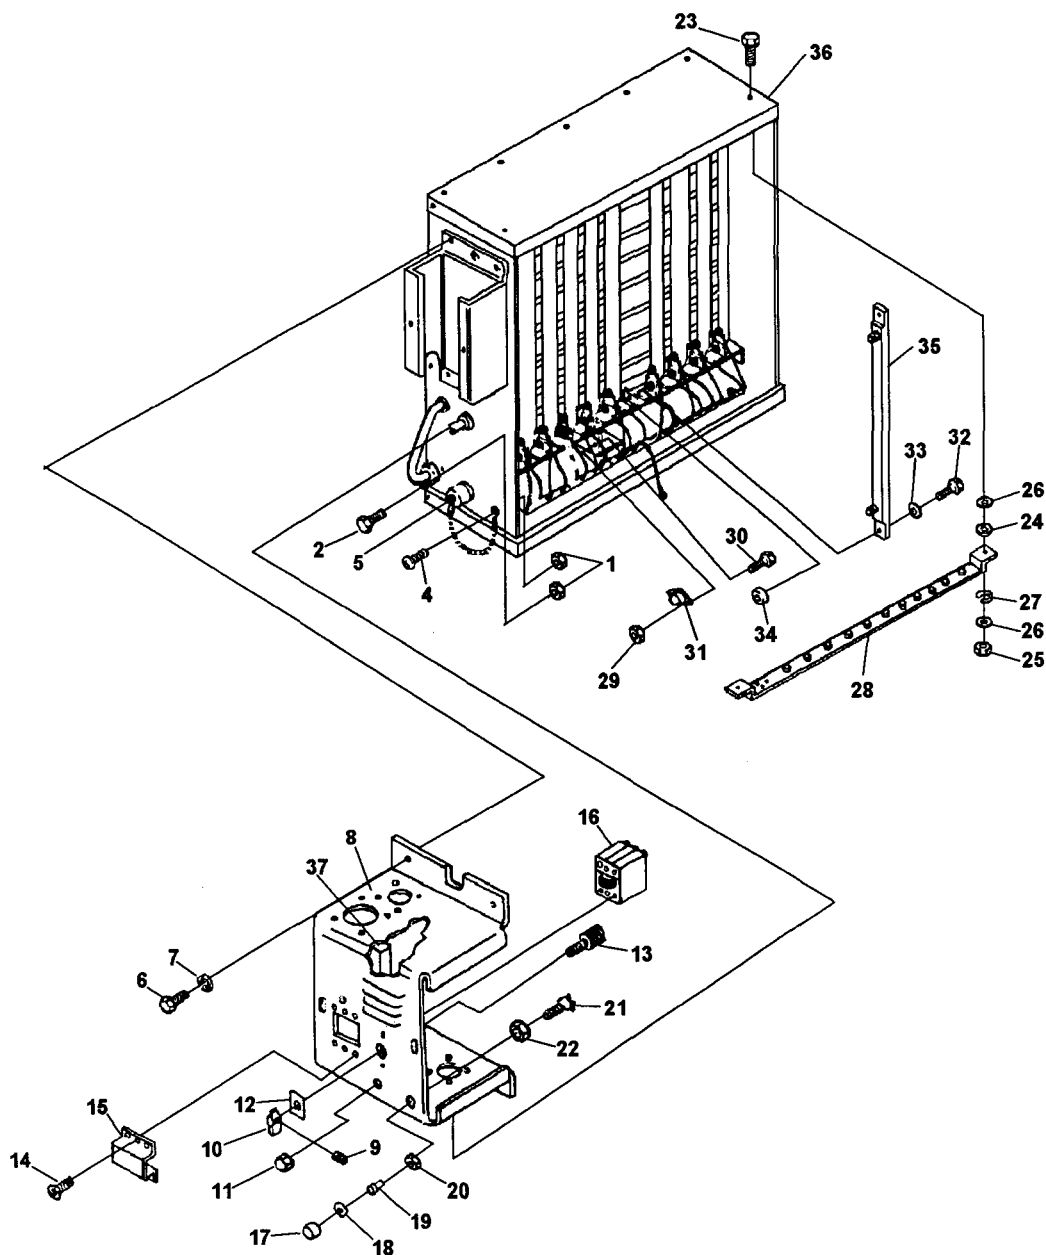

Figure 5-12. Load Bank Assembly, Exploded View
- b. Visually inspect voltage selector connectors (3, Figure 5-12) and load selector switch (13, Figure 5-12) for freedom of movement between positions, insecure mounting, loose connections, loose or broken control knob and other damage.
- (1) Removal.
- (a) Refer to paragraph 5-21 c. (1) above and remove load bank assembly from generator set.
- (b) Remove nuts (1, Figure 5-12) and screws (2) and pull voltage selector connectors (3) out from load bank.
- (d) Do not remove screw and captive washer assembly (4) and protective cap (5) unless inspection reveals damage.
- (2) Cleaning and Inspection.
- (3) Installation.
- (a) If removed, install protective cap (5, Figure 5-12) and screw and captive washer assembly (4).
- (c) Push voltage selector connectors (3) onto load bank and install screws (2) and nuts (1).
- (a) Remove screws (6, Figure 5-12) and lockwashers (7) and pull control box cover (8) away from load bank
- (c) Remove setscrew (9) and control knob (10).
- (d) Remove screws (11) to remove load selector plate (12) and switch (13).
- (3) Testing.
- (4) Installation.
- (a) Install switch (13, Figure 5-12), load selector plate (12), and screws (11).
- (b) Install control knob (10), and setscrew (9).
- (d) Install control box cover (8) onto load bank with lockwashers (7), and screws (6).
- (a) Remove control box cover as outlined in subparagraph c. (1) (a) above.
- (c) Remove screws (14, Figure 5-12) to remove cover (15) and circuit breaker (16).
- (a) Install circuit breaker (16, Figure 5-12), cover (15), and screws (14).
- (c) Install control box cover as outlined in subparagraphs c. (4) (a) above.
- (c) Unscrew lens (17) and remove O-ring (18) and lamp (19).
- (d) Remove nut (20) to remove base (21) and nut (22).
- (a) Install nut (22, Figure 5-12), base (21), and nut (20).
- (b) Install lamp (19), O-ring (18), and screw lens (17).
- (d) Install control box cover as outlined in subparagraph c. (4) (a) above.
- (a) Remove load bank assembly as outlined in paragraph 5-21 c. (1) above.
- (c) Remove screws (23, Figure 5-12), plastic washers (24), nuts (25), flat washers (26) and washers (27) to remove terminal board assembly (28).
- (a) Install terminal board assembly (28, Figure 5-12), washers (27), flatwashers (26), nuts (25), plastic washers (24), and screws (23).
- (c) Remove nuts (29, Figure 5-12) and screw and captive washer assemblies (30) to remove thermostat switch (31 ).